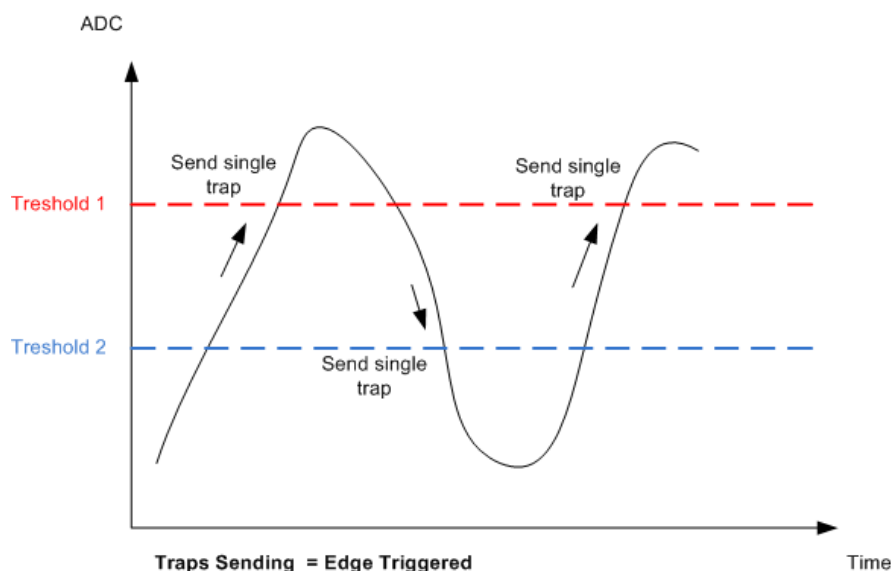

Figure 41. Sending tarps with Traps Sending = "Edge Triggered"
- If **Traps Sending** parameter from web page "**SNMP Traps Settings**" is set to "**Edge Triggered**" a single trap is sent when measured value crosses over the **High Threshold** or below the **Low Threshold** values (Fig. 41).